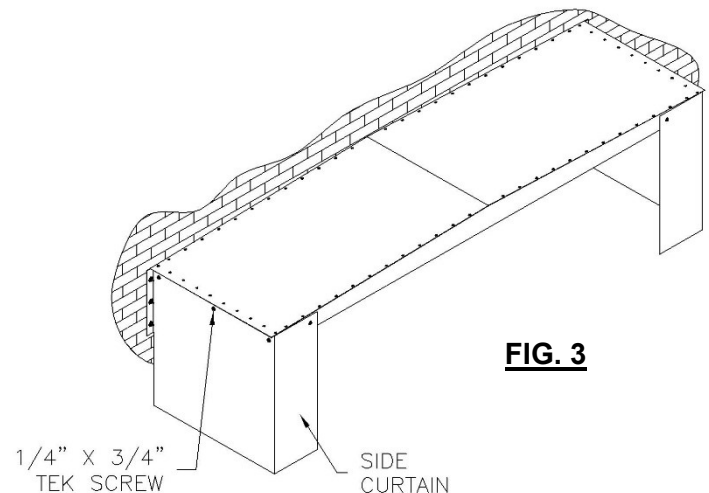

FIG. 3
a. Attach side curtains (Fig 3).